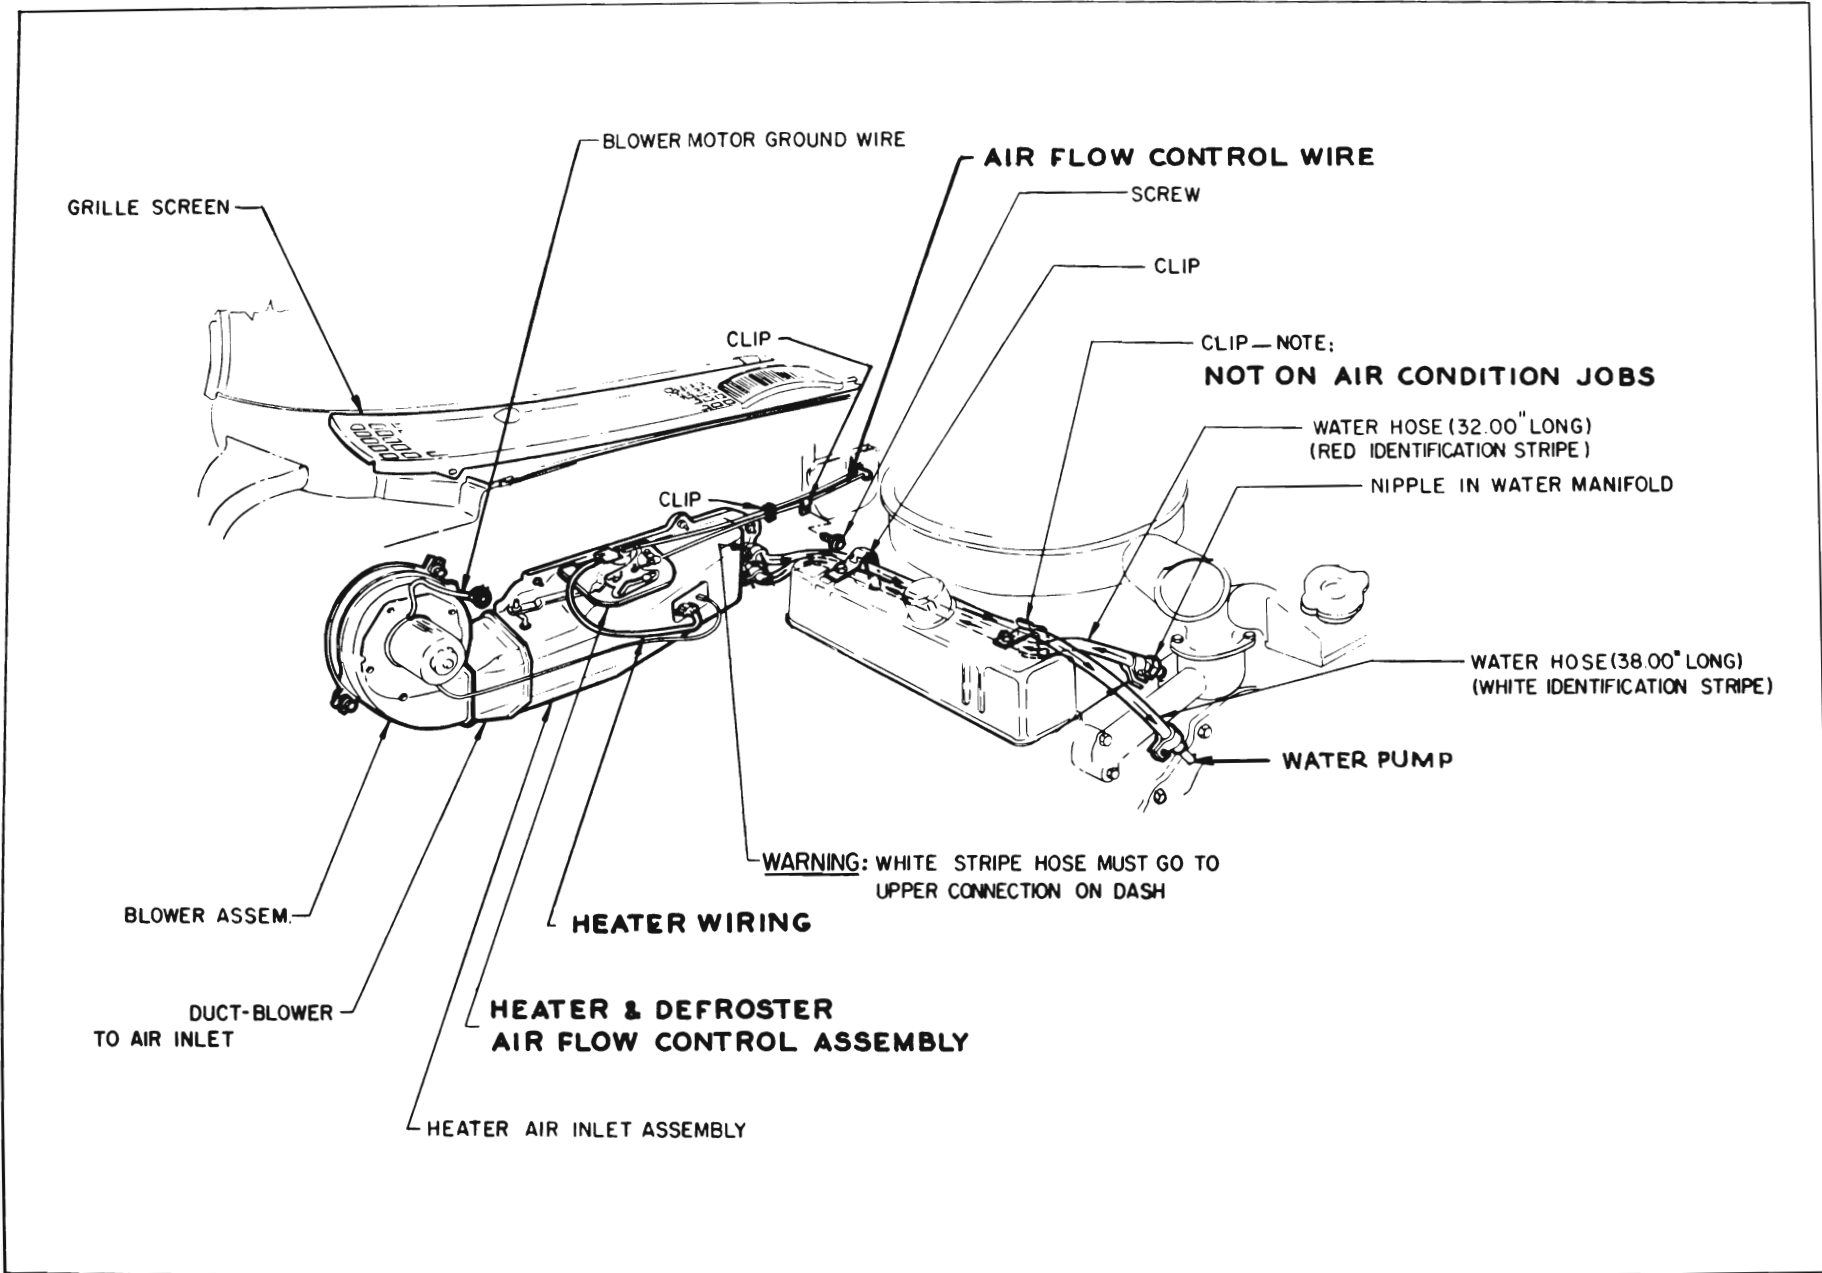

Figure 11-23—Heater Water Flow and Air Flow Control Assembly
11. Heater hoses improperly installed.	11. See Figure 11-23.